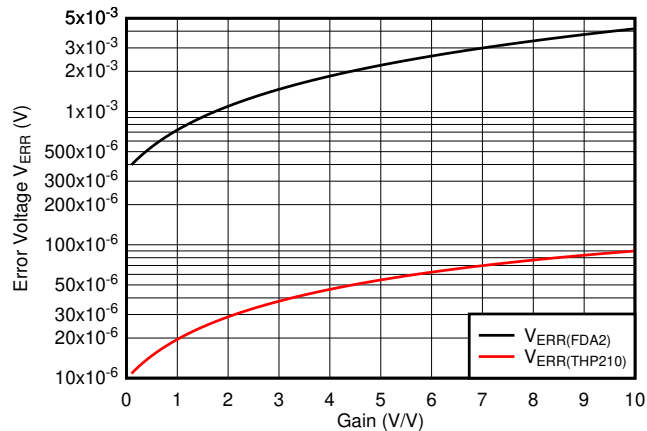
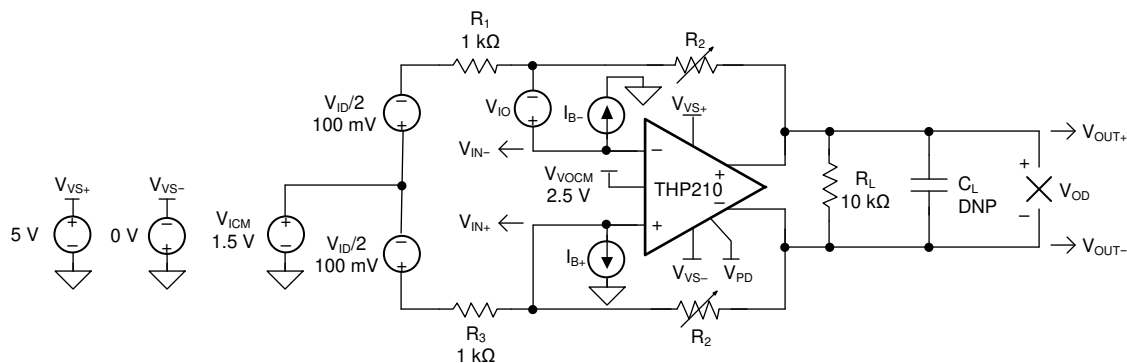

图 9-1. TINA-TI™ Software Simulation of DC Error Voltage at Different Gain Settings (Variable R_2)
图 9-2. FDA DC Error Model
The THP210 super-beta input device features extremely-low input bias current, trimmed low input offset voltage, and the lowest offset drift over the full temperature operating range. These features allow the device to produce a negligible initial error band at 25°C, but also exceptional robust behavior over temperature. The red curve in Figure 9-1 showcases a simulation of the total dc error voltage at 25°C versus different gain configurations based on the application configuration shown in Figure 9-2.
- Circuit configuration as shown in 图 9-2